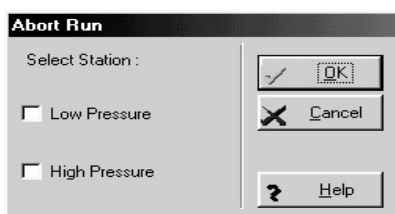

Figure 32. Abort run dialog box
- Click on **STOP** at the top of the screen (on the PC), or **ABORT** at the bottom of the data acquisition window. If both low pressure and high pressure runs are in progress at the same time, select which run to abort from the message box as shown in Figure 32. A high pressure run can also be aborted by pressing the EMERGENCY STOP button located on the deck panel.